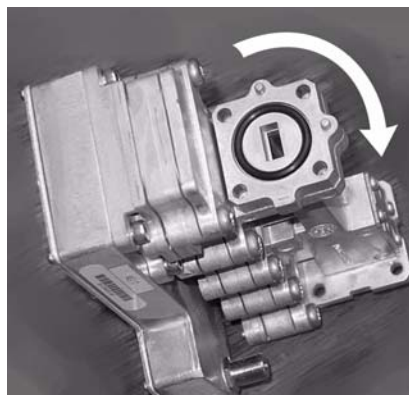

Figure 25: Direction of TRIA rotation for vertical polarization
5. Install the vertical shim and O-ring in the same location. Because of its shape and alignment pins on the transmit/receive isolation assembly (TRIA), the vertical shim can only be installed in the position shown in Figure 24 (upper right photo). Note the position of the alignment pins. Likewise, the horizontal shim can only be installed in one position. Because of the shim's alignment pins, you must rotate the TRIA 90° from its horizontal polarization position. You must rotate the TRIA *before* you re-attach the waveguide end so you can insert the shim alignment pins into the waveguide end plate. See Figures 25 and 26.
6. Make sure the O-ring shown in Figure 25 on page 34 is in place in the shim.